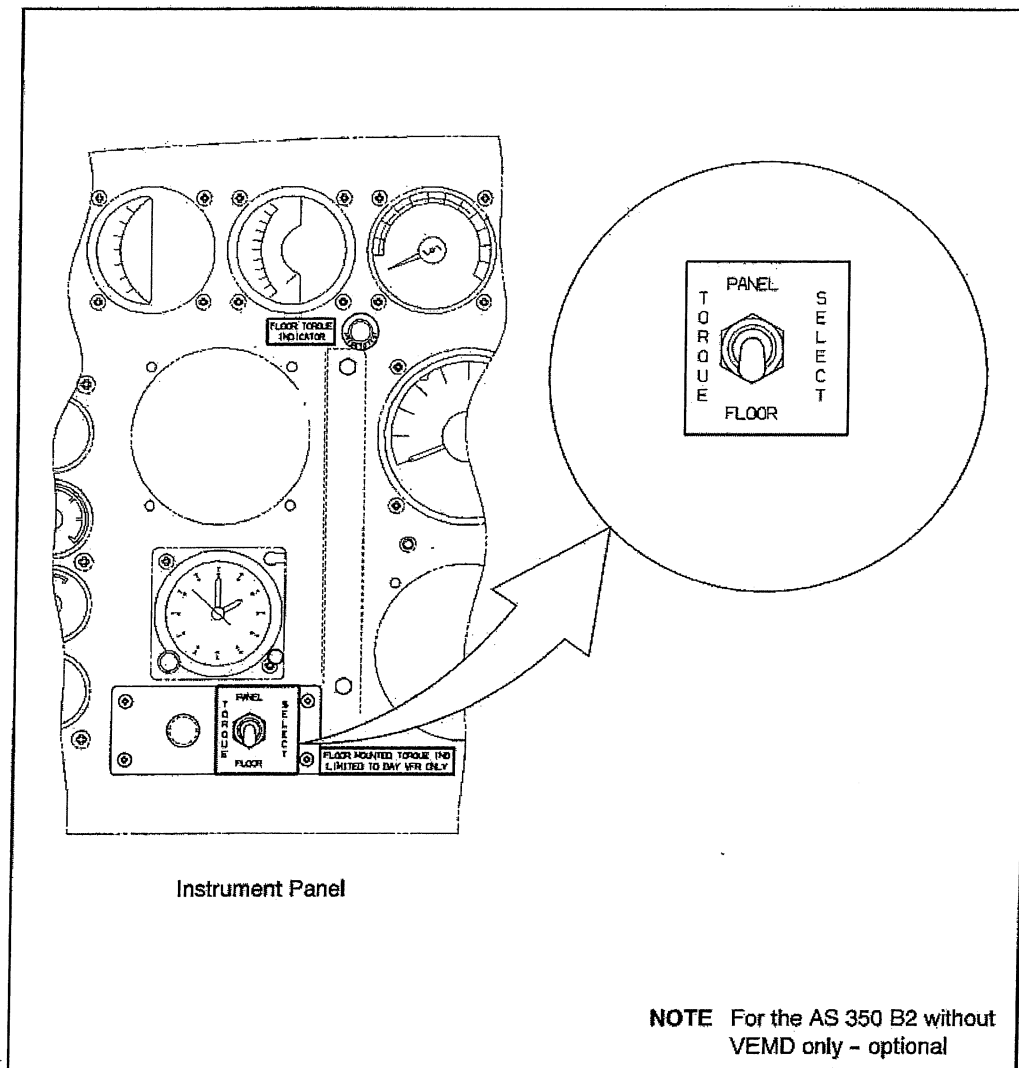

Figure 4 Torque Select Switch locations on the Instrument Panel
- 3) Press to Test Button (if installed, refer to Figure 4)